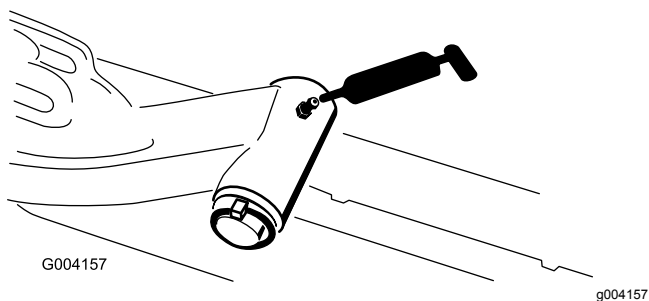

Figure 32
- Lift-arm pivot shaft (1 each)—Figure 32